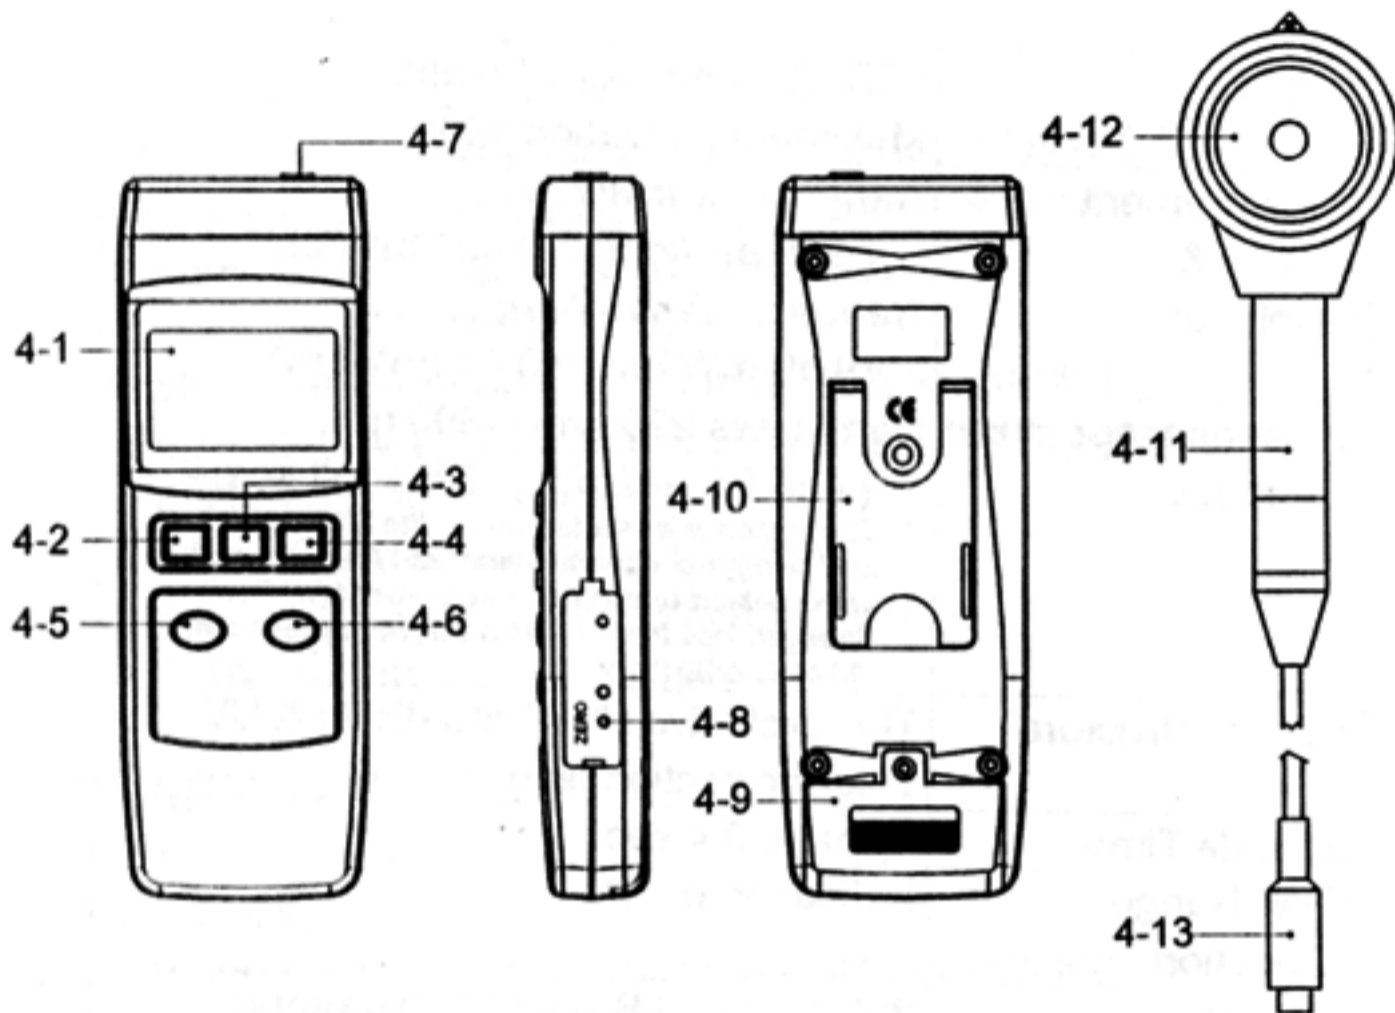

Fig. 1
- 1) Connect the " Probe Plug " (4-13, Fig. 1) to the " Input Socket " (4-7, Fig. 1)
- 2) Power on by pushing the " Power On Button " (4-2, Fig. 1).
- a. Select the " 2 mW/cm² " range by pushing the " 2 mW/cm² Button " (4-5, Fig. 1)
- b. Select the " 20 mW/cm² " range by pushing the " 20 mW/cm² Button " (4-6, Fig. 1)
- 4) Use the hand to hold the " UV Probe Handle " (4-11, Fig. 1) and face the " UV Sensor " (4-12, Fig. 1) to the measuring UV light opposite. then the Display (4-1, Fig. 1) will show light values directly.
During the measurement, pressing the " Hold Button " (4-4, Fig. 1) will freeze the display value, at the same time the LCD will show the " HOLD " indicator.
Push the " Power Off Button " (4-3, Fig. 1) will power off the meter.
Due to drift of environment temperature value, battery power change or, meter used for a long time or other reasons... The display value may exist not zero value (few digits) after blanking the " UV Sensor " (4-12, Fig. 1). General speaking those not zero value will not effect the measurement typically. However if intend to make the precision measurement, the following zero adjustment procedures should be executed as :
- b. Blank the " uv Sensor " (4-12, Fig. 1). Use a convenient screw driver to adjust " Zero adjust VR " (4-8, Fig. 1) until the display reach the " Zero " value.
- 2) Open the " Battery Cover " (4-9, Fig. 1) away from the instrument and remove the battery.